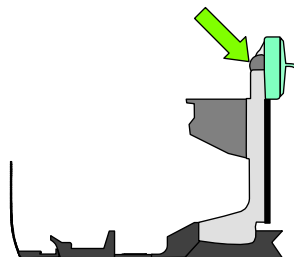

Figure 4-14: Clean the ribbon tracker
- Clean the ribbon tracker using the printer cleaning pen. The ribbon tracker is located on the swing arm (see Figure 4-14).